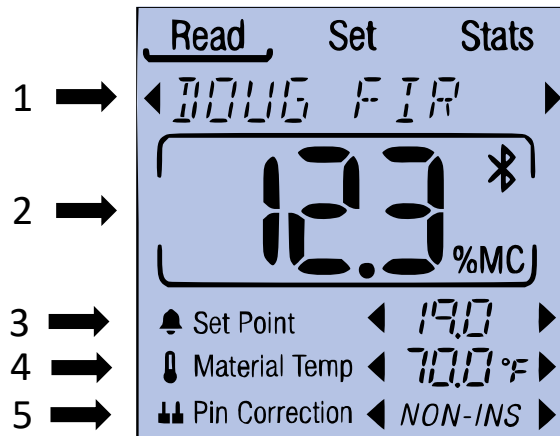

Figure 2: Read screen components
Info: The live reading area displays the corrected moisture value of the wood. The reading is corrected using the Species (1), Material Temperature (4), and Pin Correction (5) (see Figure 2 above).